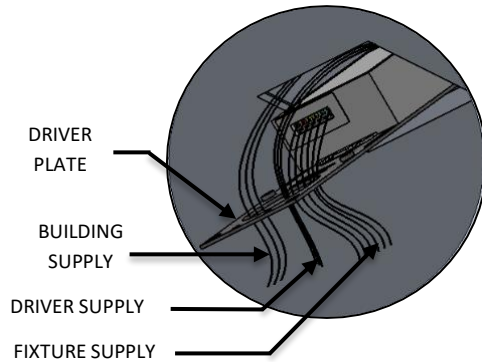

FIG. 24- DETAIL SHOWING BUILDING SUPPLY AND DRIVER WIRE
17. Slide DRIVER PLATE into the box with the DRIVER facing up. As you slide the plate into position, make sure you pull the BUILDING SUPPLY connections through the large hole in the DRIVER PLATE as shown below in FIG. 24 and other wires will already be through the center hole.